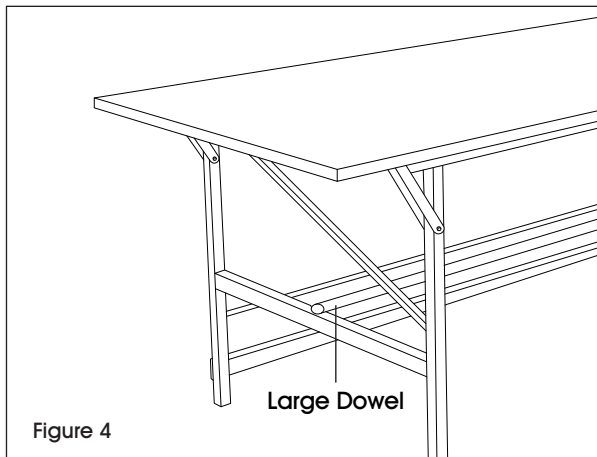

Figure 4
- Place large dowel into dowel sockets in the middle of the table legs. (See Figure 4)